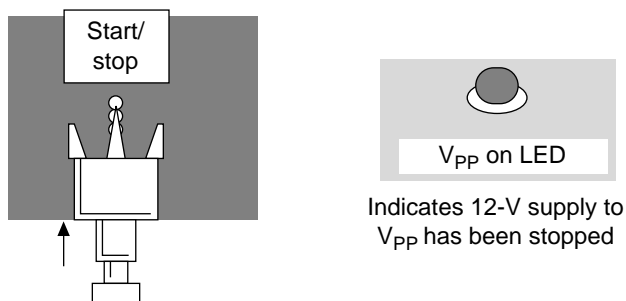

Figure 4.15 End of Programming Operation
10. Press the adapter board’s transfer switch to stop the 12-V supply to the Vpp pin and mode pin. The Vpp ON LED (red) goes off (figure 4.15). The F-ZTAT microcomputer in the user machine starts the application program.